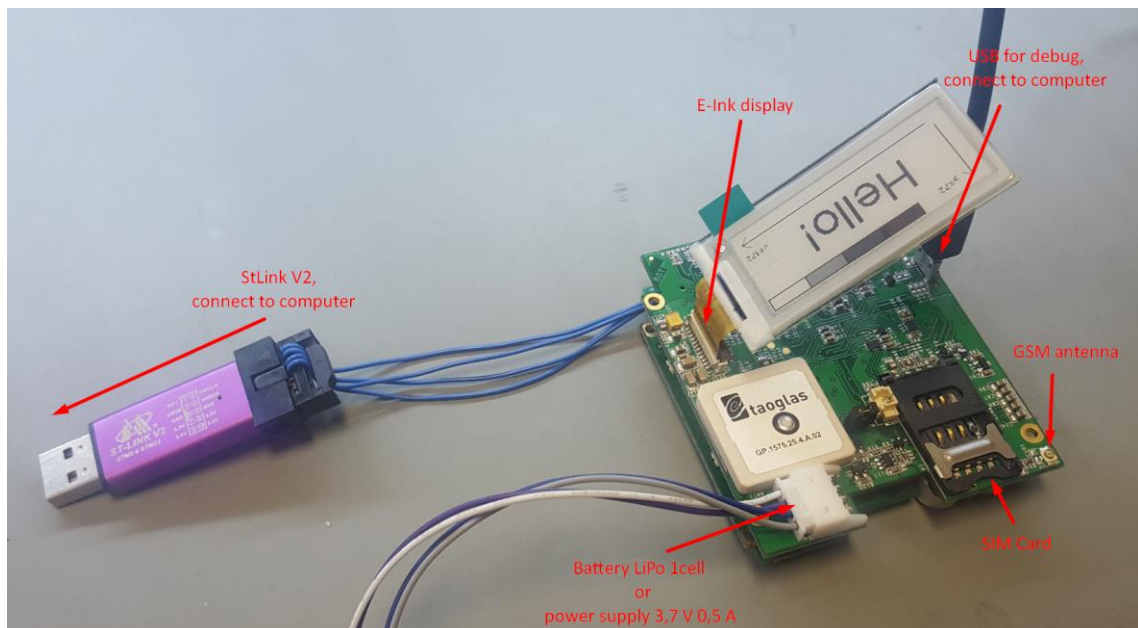

Figure 7: Main board prepared for testing
- 1.) Connect the ST-Link programmer to the OpenSenseIOT board, like shown on the Figure 7.